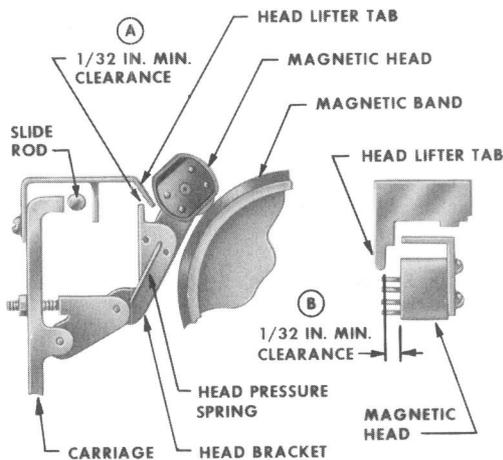

Fig. 13—Head Lifter Tab Clearance
3.25 Magnetic Head Lifter Tab Position (Fig. 13):